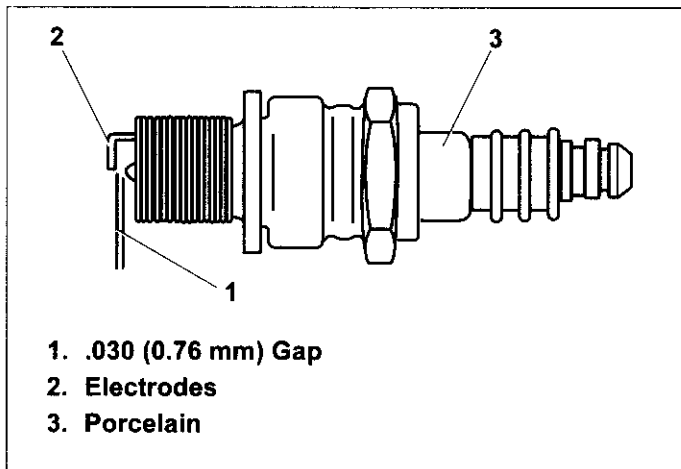

Figure 24. Resistor Spark Plug
4. Check electrode gap with wire feeler gauge and set gap to .030 (0.76mm) if necessary. See Figure 24.